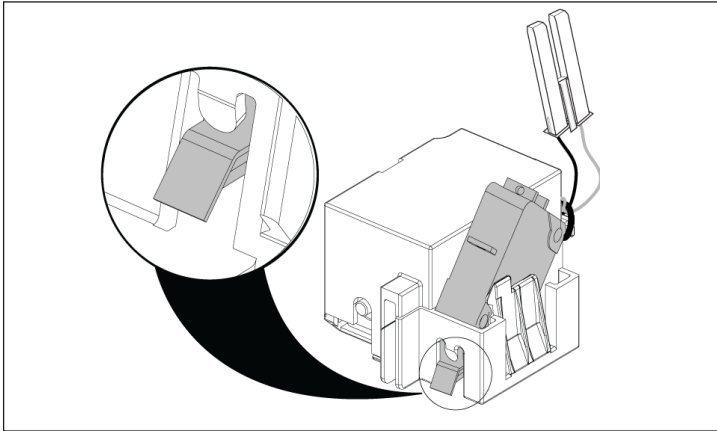

Figure 9. Step 2.
Step 2: Position the spring release as shown. Tilt the latch check switch back to properly position it for final installation. The LCS is shown without leads soldered to appropriate terminals for clarity purposes (Figure 9).